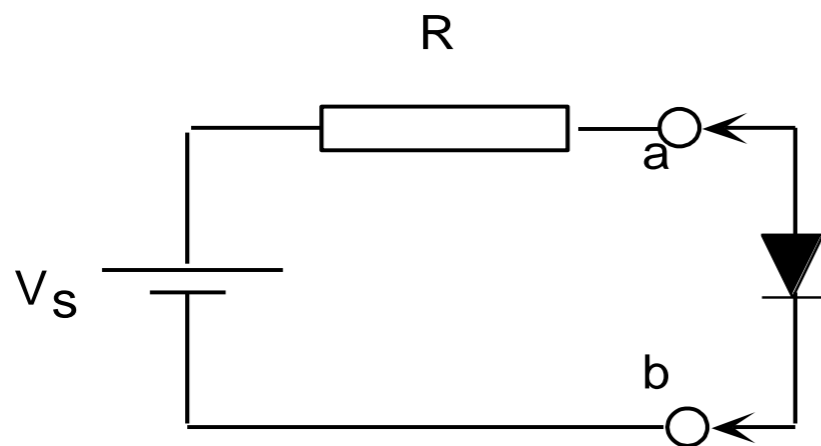

Fig. 3a
- For the circuit of Fig. 3a, each part of the circuit defines a relationship between  $I$  and  $V_{ab}$ .